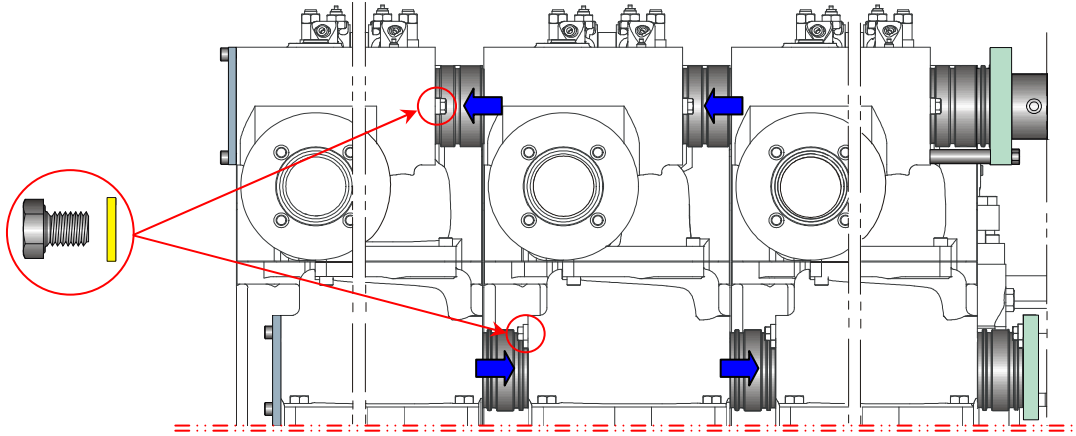

Fig. 1 Disconnect connection pipes (연결관의 분리)
1. Disconnect connection pipes by moving axially (the direction of arrow) as shown in fig 1.